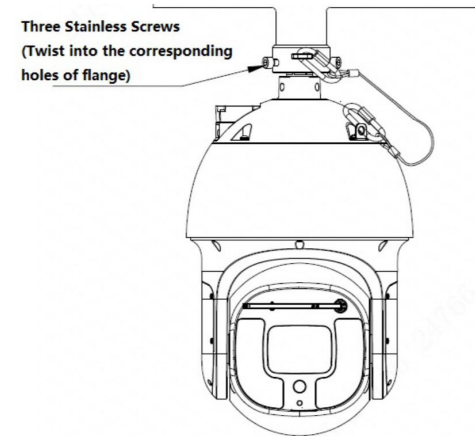

Figure 2-3
Step 3 Connect Speed dome cable and wall cable, make sure both are waterproofed properly. Twist the three stainless screws into the corresponding screw holes of flange, use the inner hex tool to tighten the three stainless screws, as shown in Figure 2-3.